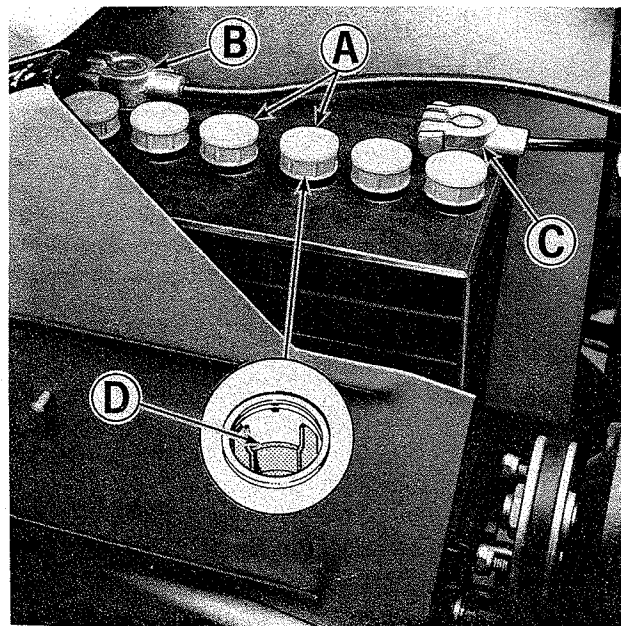

Figure 29. Tractor battery visible when hood is raised.
CHECK BATTERY WATER LEVEL: See figure 29. Every 25 hours, or more often when operating the tractor in temperatures above 72°F, remove the 6 battery caps (A) and check the water level in each cell. When the battery is in use, water evaporates from it. Never allow the water level in the battery to get below the top of the plates. Fill the battery to marking ring (D) with distilled water as shown in figure 29. If distilled water is not available, clean tap water may be used.
CLEAN BATTERY CABLES: See figure 29. Every 100 hours or once a year the battery cables (B) and (C) should be removed and cleaned. **CAUTION: ALWAYS REMOVE THE NEGATIVE "GROUND CABLE" (C) FIRST AND REPLACE IT LAST.** Clean the battery with soap and water to remove all dirt, oil and corrosion from the battery surface. Do not allow foreign material or cleaning solution to get inside the battery. Clean the terminals and battery clamps with a wire brush. Replace and tighten securely. After tightening coat the terminals and clamps liberally with a coat of grease or vaseline to inhibit corrosion.